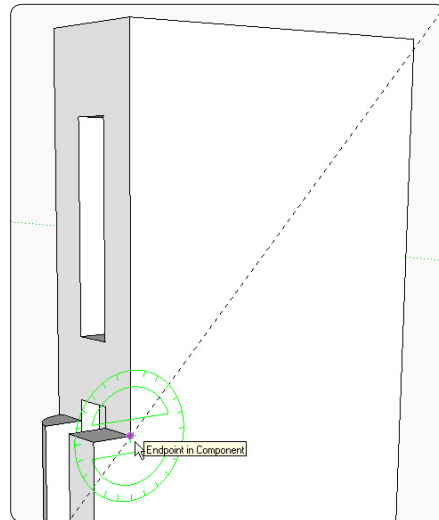
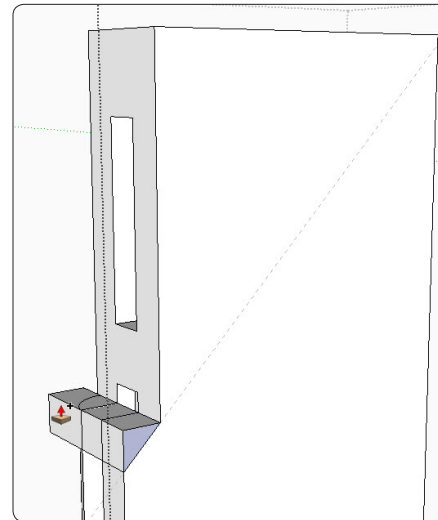

Figure 84. Position the Protractor Tool as shown and draw a 45-degree guideline.
Figure 85. Draw over the guideline, then push the triangular shape through the stile.
Step 9 Use the Orbit Tool to move to the back side of the stile. Position the Protractor Tool at the corner, as shown in Figure 84, and draw a 45-degree guide line on the face. Trace over the guide line. Select the Push/Pull Tool and press the Ctrl key (Option on the Mac). A small + sign will appear on the cursor. Push the triangular shape beyond the front edge of the stile, as shown in Figure 85.